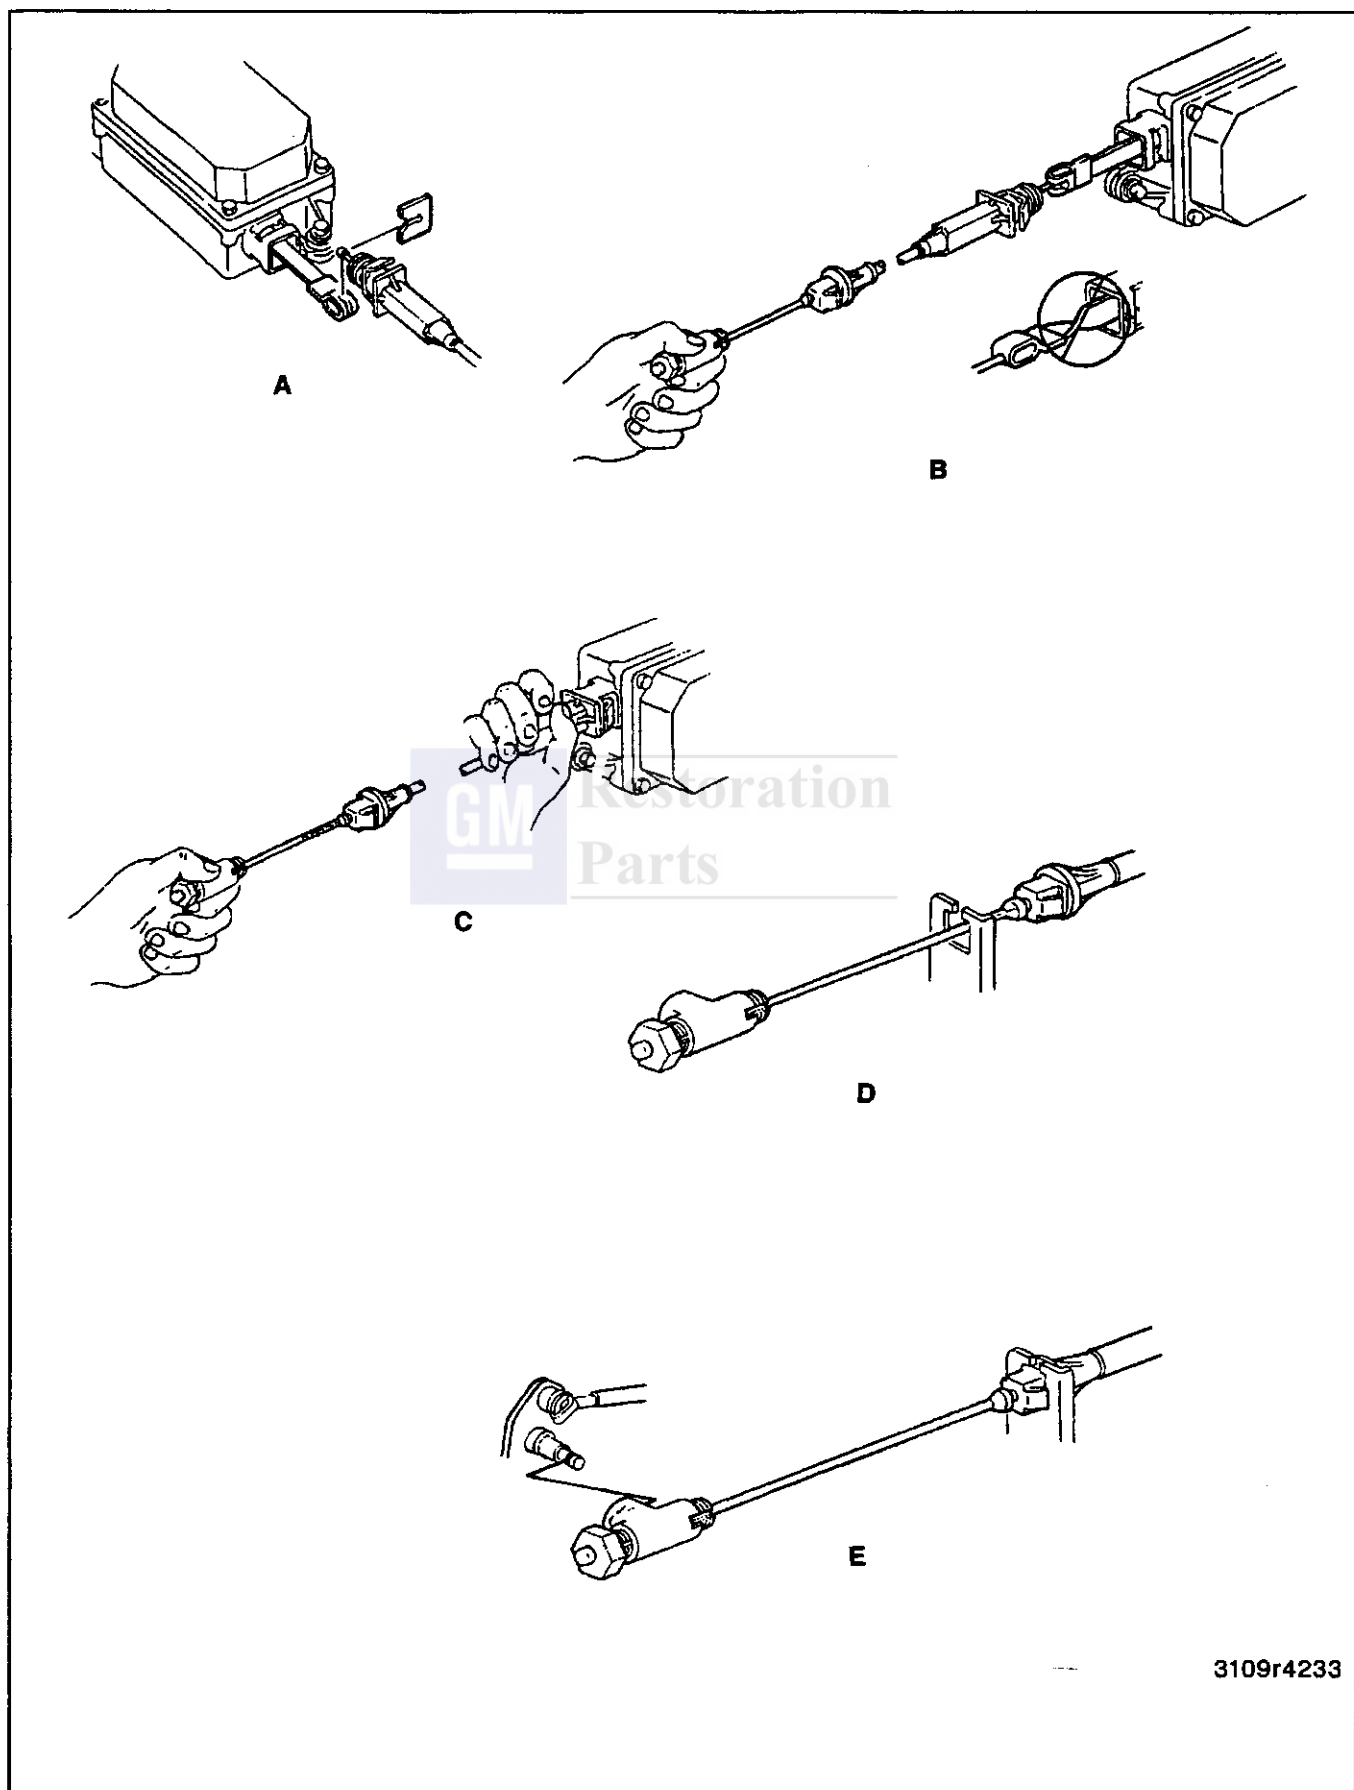

Figure 2—Cruise Control Cable
**Remove or Disconnect (Figures 2 and 3)**
## Install or Connect (Figures 2 and 3)
1. Attach cable end to cruise motor ribbon end fitting. (Refer to A in figure 2.)
2. Pull cruise cable engine end fitting until cable is taut. (Refer to B in figure 2.)
3. Turn cruise cable engine end fitting to straighten ribbon. Ribbon must be flat and horizontal. (Refer to B in figure 2.)
4. Slide cable conduit over ribbon and install tangs in cruise motor housing. (Refer to C in figure 2.)
5. Install cable conduit in engine bracket. Press firmly until the tangs lock. (Refer to D in figure 2.)
6. Install cable end fitting to TBI lever stud. (Refer to E in figure 2.)